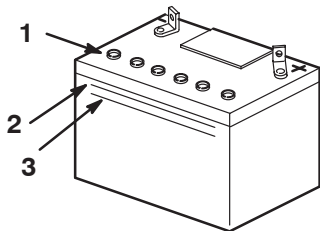

Figure 33
- Look at the side of the battery. The electrolyte must be up to the Upper line (Fig. 33). Do not allow the electrolyte to fall below the Lower line (Fig. 33).
- Remove the vent caps from the battery (Fig. 33).
- Slowly pour distilled water into each battery cell until the electrolyte level is up to the Upper line (Fig. 33) on the battery case.
- Wait five to ten minutes after filling the battery cells. Add distilled water, if necessary, until the electrolyte level is up to the Upper line (Fig. 33) on the battery case.